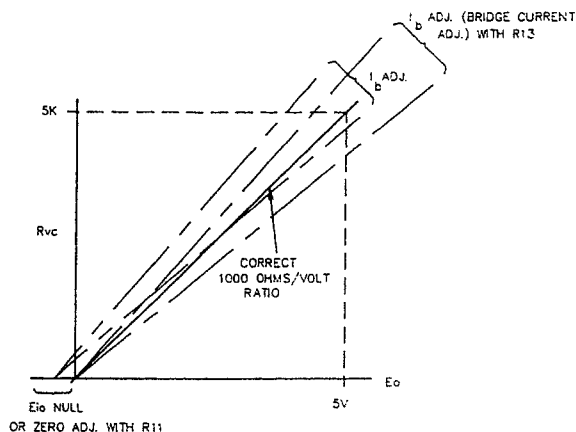

FIG. 3-6 ESTABLISHING PROGRAMMING LINEARITY
- e) Open S1 and check the 5 volt reading. Repeat "c" and "d", as necessary to achieve the desired accuracy. FIG. 3-6 below shows graphically how the programming ratio can be precision adjusted.